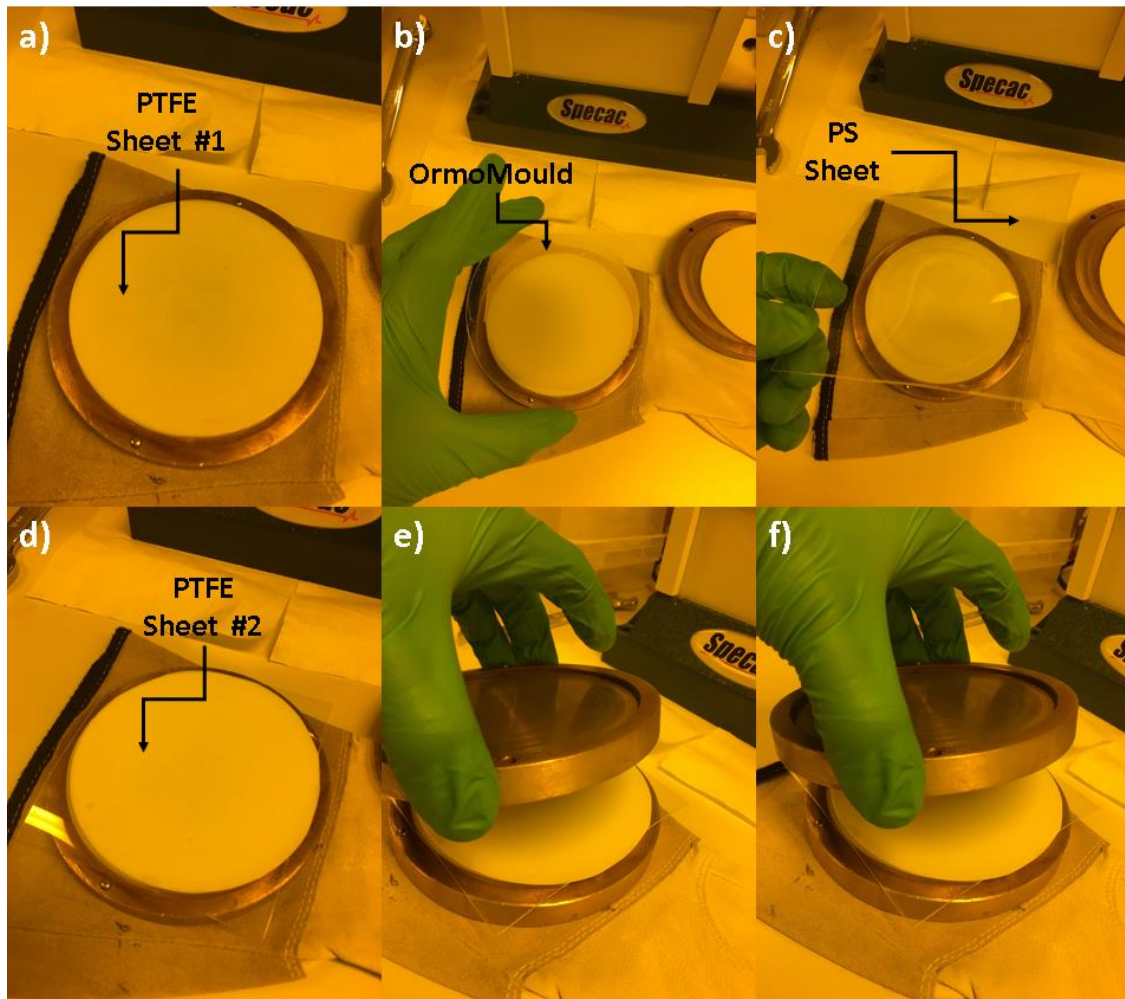

Figure 2. The steps of hot embossing of polystyrene (PS) sheets for hot embossing.
**Step 3:** If you are using polystyrene (PS) as your polymer substrate, see Figure 2 as a guide to stack up your OrmoMould and PS with PTFE sheets, which are utilized to prevent your PS surfaces and the OrmoMould from sticking to the brass plates. Follow the steps described in Figure 2, polystyrene (PS) sheets should be cut into 100 mm x 100 mm squares.